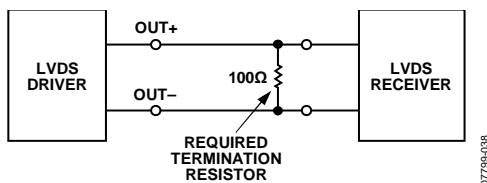

Figure 43. LVDS Requires Far-End Termination
- Reduced kickback noise. LVDS outputs are current output stages that require a $100\ \Omega$ terminating resistor at the receiver (see Figure 43). This differs from CMOS outputs, which generally do not require termination